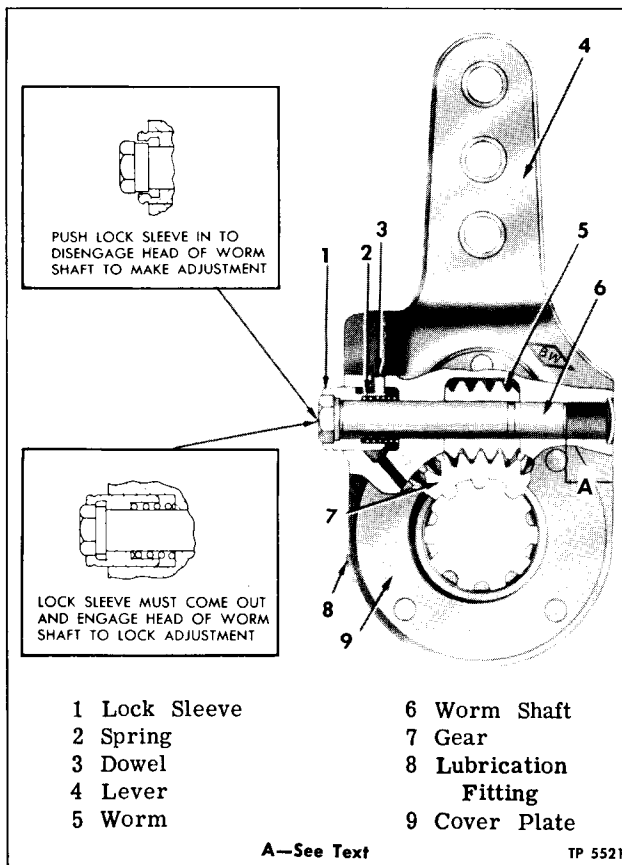

Figure 28—Slack Adjusters (Typical)
Slack adjusters function as adjustable levers and provide a quick and easy method of adjusting the brakes to compensate for normal lining wear. Positive locking type slack adjusters are used at front and rear brakes. Construction of both front and rear slack adjusters is shown in figure 28.
Disassembly (Fig. 28)
Assembly (Fig. 28)
3. Enter small end of worm shaft through hole in body and worm. Press worm shaft into worm and body, making sure groove in lock sleeve is aligned with pin in body. Press shaft in until distance from small end of shaft to edge of body (A, fig. 28) is as follows: Front - 5/8" - Rear - 9/16". Install welch plug in worm shaft bore.